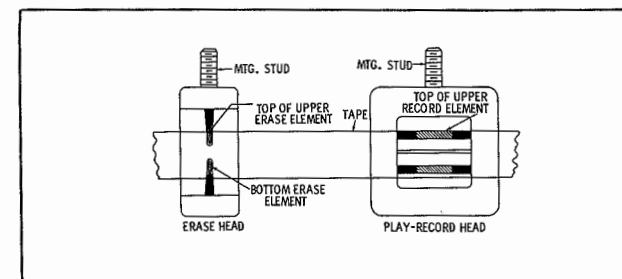

Fig. 18. Head Height Location.
2. Turn erase head mounting nut (158) until the top edge of upper erase element is even with top edge of tape (Refer to Fig. 18).